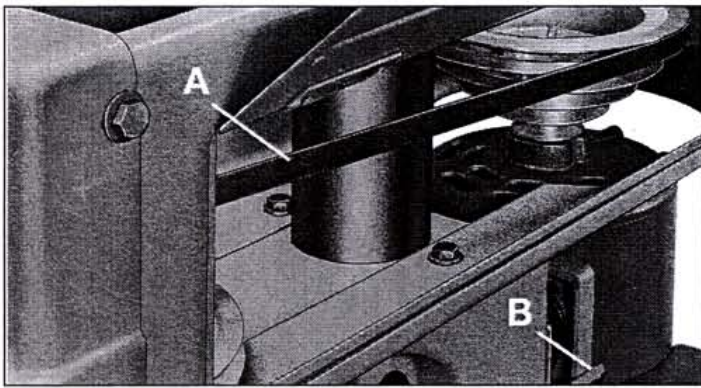

Figure 3
1. Raise door on guard. Loosen lock handle (B, fig. 3) on motor base, to release belt tension.
2. Shift belt (A) to step desired.